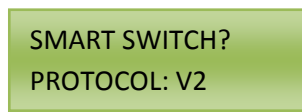

Figure 17.4
- a. This Action allows Time-Keeper® to support 32 Control Stations under Version 1 and to support 50 Control Stations under Version 2. To change the Version, press the RIGHT Arrow. Make sure to press ENTER to save the information. See Figure 17.4 for an example.